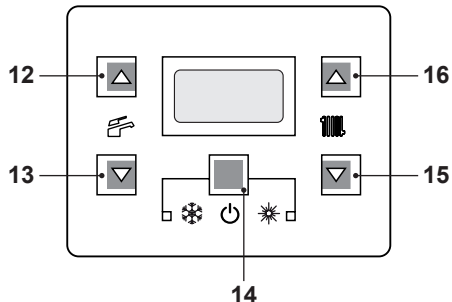
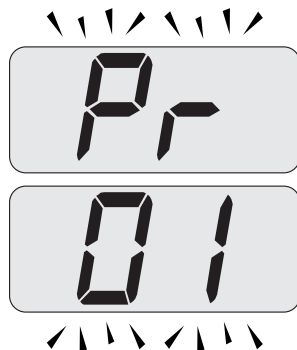
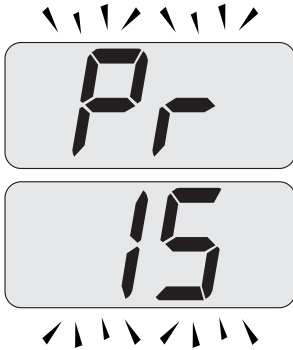

Fig. 7.20
Fig. 7.21
Fig. 7.22
- Enter in "programming mode" by pressing keys 14 - 15 - 16 (Fig. 7.20) for 10 seconds at the same time until the letters **Pr** that alternate with code 01 are displayed on the LCD display, indicating that "parameter 01", has been activated (Fig. 7.21).
- Scroll the various parameters using keys 15 or 16 until the letters **Pr** that alternate with code **15** are displayed on the LCD display, indicating that "parameter 15" (Fig. 7.22) has been activated.
- Press keys 14 and 16 (Fig. 7.20) at the same time until the value of parameter 15 (Fig. 7.23) is displayed on the LCD display.
- By pressing key 14 (Fig. 7.20) confirmation of the inserted value is obtained.
- Press keys 14 and 15 (Fig. 7.20) at the same time to exit without changing the value (return to the parameters list Fig. 7.22).
- Press keys 14 - 15 - 16 (Fig. 7.20) at the same time for 10 seconds to exit the "programming mode".
However, if the ambient temperature is not comfortable, the flow temperature of the heating plant can be increased or reduced by $\pm 15^{\circ}\text{C}$ by acting on keys 15 (reduce) and 16 (increase) (Fig. 7.20).